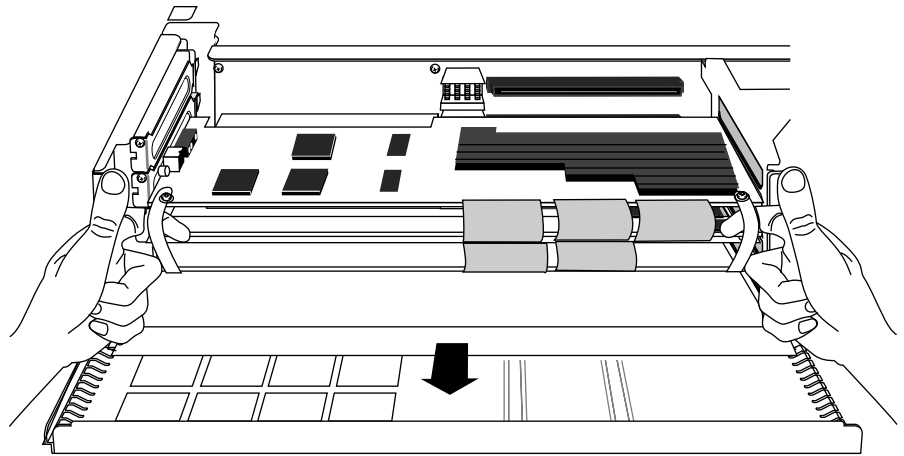

Figure 2-10 Removing the Graphics Board Set
6. Pull the straps to remove the graphics board set from the chassis (Figure 2-10).